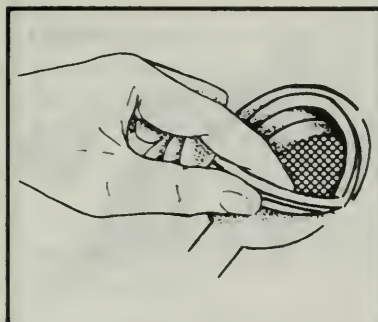

Figure 246. Remove collar from filter element connector.
b. Work the collar from under the filter element connector flange (figure 246).